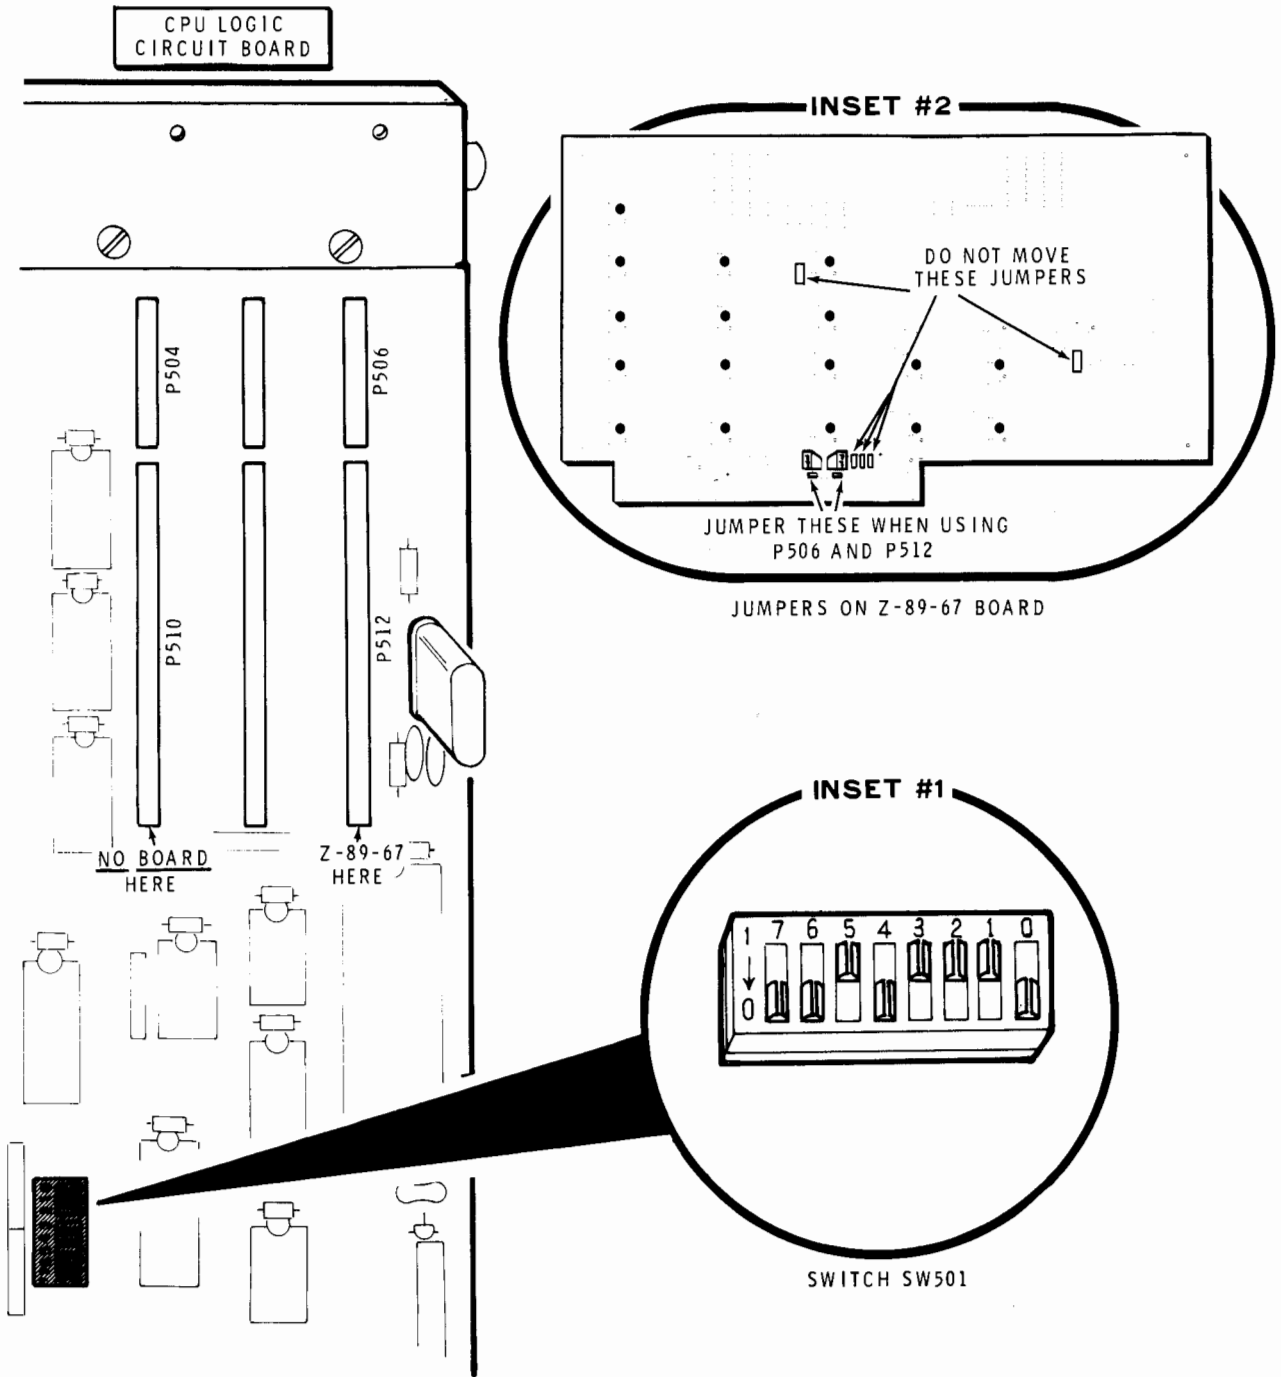

Figure 3-6
4. **None of the Above**, install your Interface Board as shown in Figure 3-6 on Page 3-9. Set switch SW501 as shown in inset drawing #1, and the jumpers as shown in inset drawing #2.